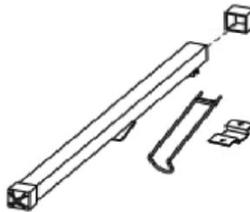

Figure 25
- Complete the crossarm assembly by attaching crossarm caps and support hooks as shown in Fig. 25.